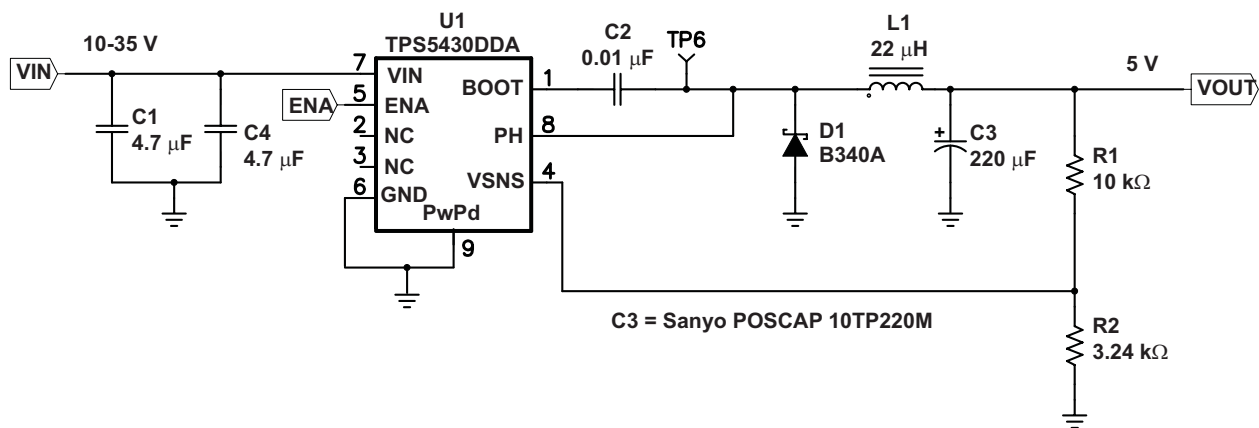
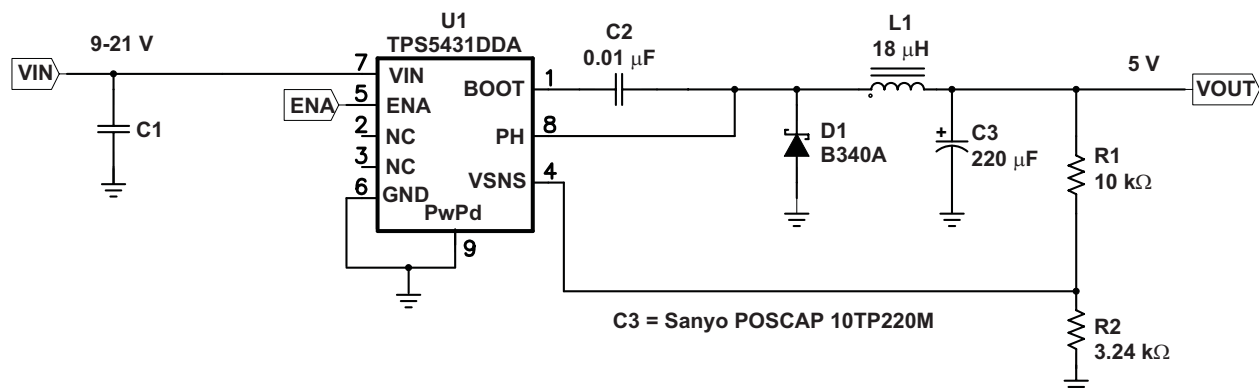

Figure 12. 10–35 V Input to 5 V Output Application Circuit
Figure 13. 9–21 V Input to 5 V Output Application Circuit
Figure 12 and Figure 13 show application circuits using wide input voltage ranges. The design parameters are similar to those given for the design example, with a larger value output inductor and a lower closed loop crossover frequency.
- Changed Figure 12 16
- Added Figure 13 16